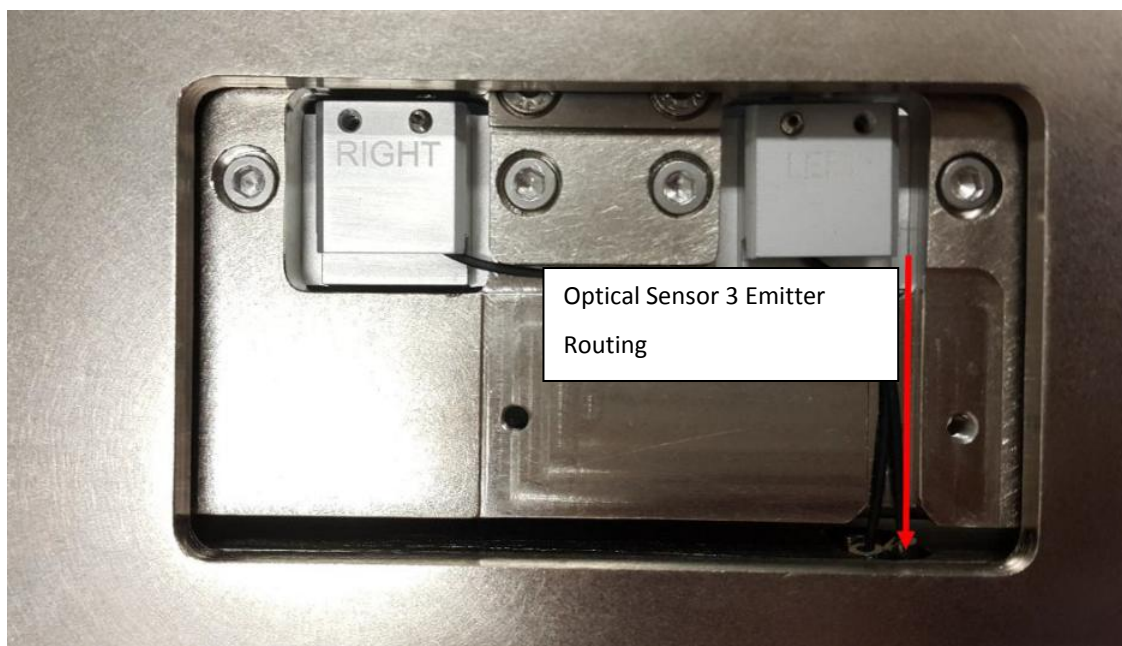

Figure 28 Optical sensor 3 Emitter Routing
7. The routing for Optical sensor 3 Emitter is as shown below in Figure 28.